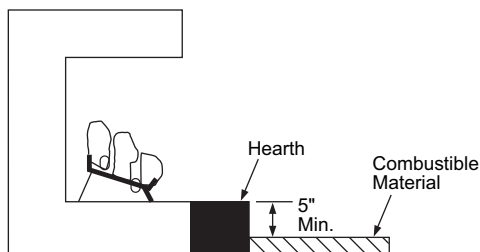

Figure 9 - Minimum Fireplace Clearances Above Combustible Flooring
- B. If combustible materials are less than 14" to the fireplace, you must install appliance at least 5" above the top surface of combustible flooring including tile and carpet. (see **Figure 9**).